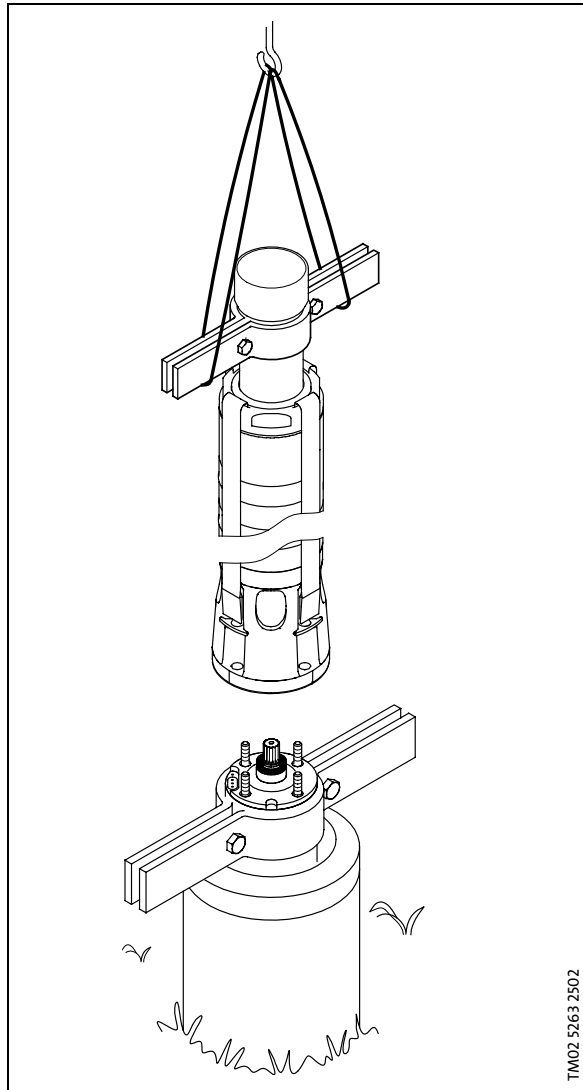

Fig. 2
3. Lift the pump part by means of pipe clamps fitted to the extension pipe, see Fig. 2.